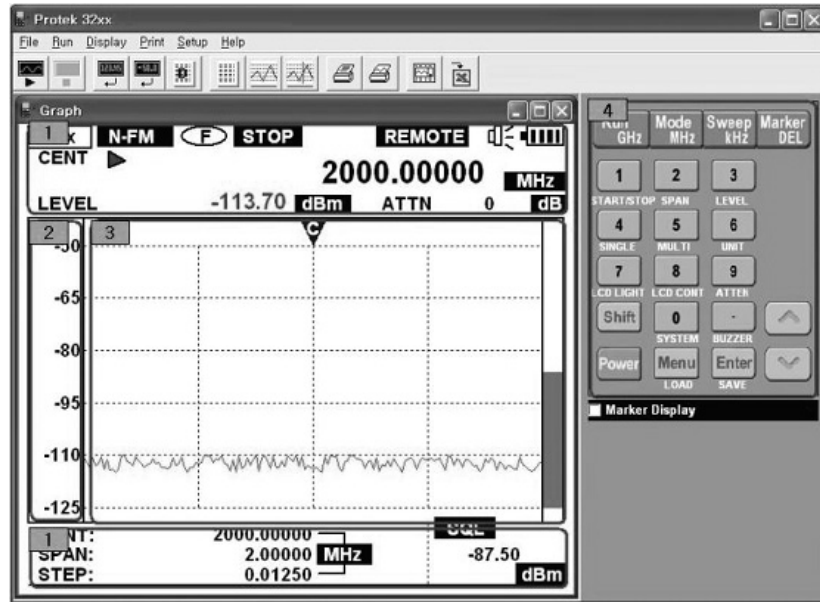

Figure 4.21. Keypad mode on graph window
- 6) Figure 4.21 will be explained at base.
- 10) Figure 4.21, note 4 as keypad mode, GUI measuring instrument similar with practical measuring instrument. In detail instruction refer to "3.2. The method of key button.